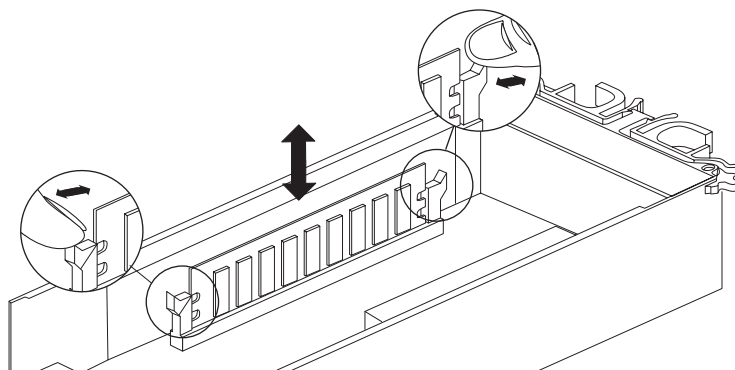

Figure 13. Releasing DIMM latches
5. Push apart the latches on either side of the DIMM to release the DIMM from its slot, as shown in Figure 13.